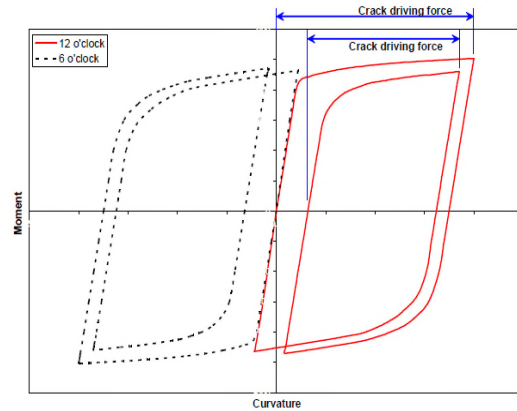

Figure 4. Introduction of Plastic Strain During Reeling Installation
- Installation/operations under high plastic deformation e.g. Reeling and/or HPHT operations (Figure 4).